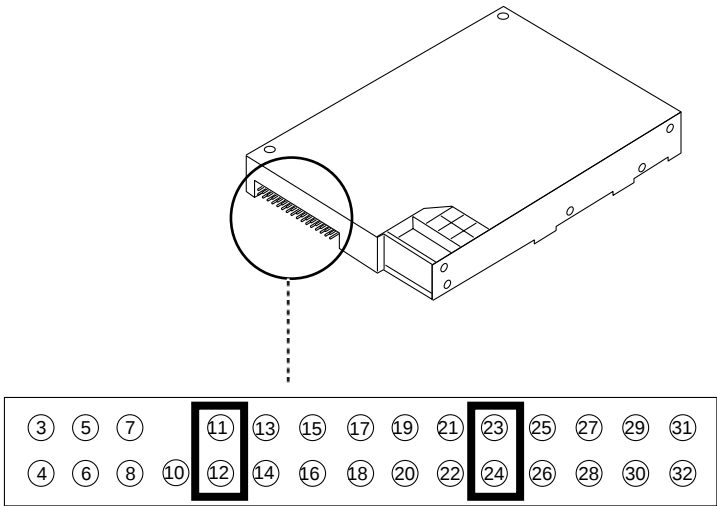

Figure 1-1 IBM Drive Jumper Settings
- See Figure 1-1 on page 1-9 for the IBM drive.